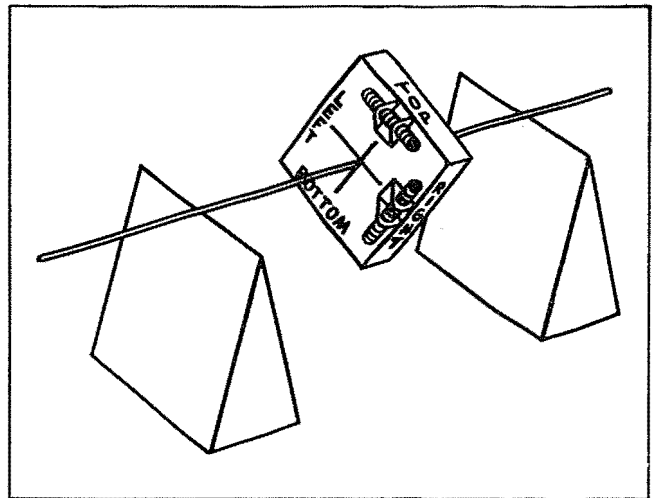
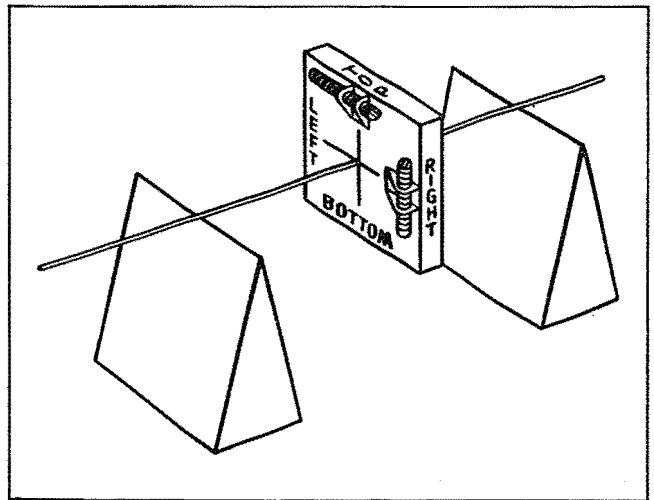

Figure 43
Figure 44
1. In the example shown in figure 43, the right side is heavier than the left and the bottom is heavier than the top. According to the principles of balancing, the first step is to balance the left side against the right. To do so, move the weight which governs the balance of the left and right sides toward the left until the line dividing the object into left and right sides is exactly vertical. (See figure 44.)